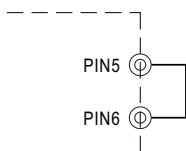

Fig. 4.1 Insert the CN1
- (1) Insert the shorting connector on CN1 that is shown in Fig 4.1, the Overload Protection Type will be "constant current limiting with delay shutdown after 3 seconds, re-power on to recover". This is the factory default.